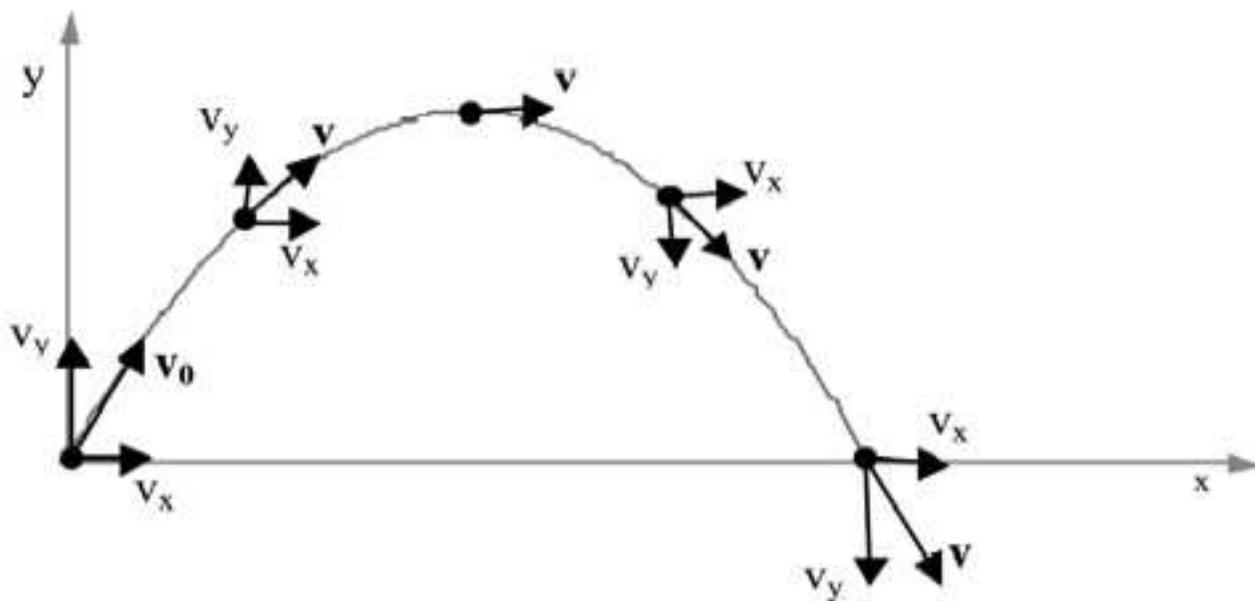

Figure 4.3: Projectile Motion. The trajectory (path) is a parabola.
- Align the back edge of the spring gun with the back edge of the table. The initial position of the projectile is defined to be the origin of your coordinate system, as shown above in Fig. 4.3. Measure Δy .